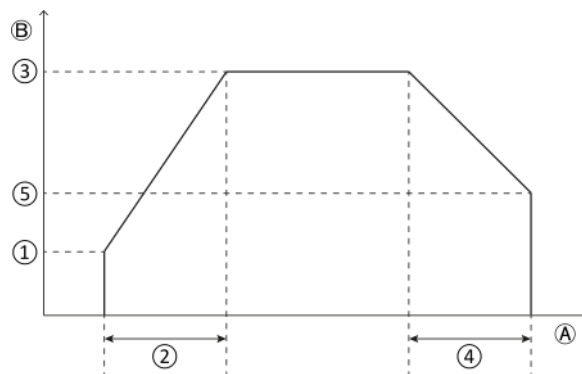

Figure 11.4: Terminology in laser output power ramping
further parameters are illustrated in figure 11.4 on page 198 . Please note that all power values on this tab are relative to the power value set in the laser device. The power values of the ramps will be output in 1 ms steps.
Legend of figure 11.4 on page 198 : (A) Time in milliseconds or Length in millimeters, (B) Percentage of laser output power, (1) Start power factor, (2) Rise time or Rise length, (3) Power factor, (4) Fall time or Fall length, (5) End power factor